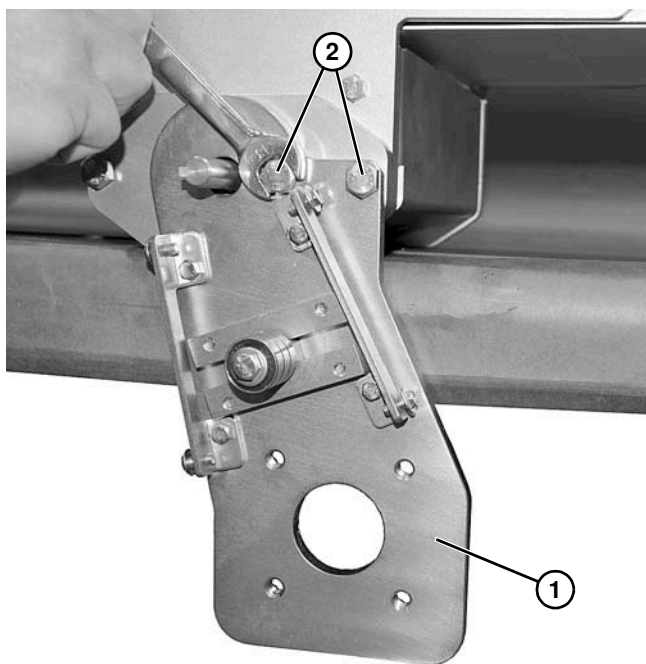

Figure 30
1. Install mounting plate (Figure 30, item 1) onto drive end of conveyor with two screws (Figure 30, item 2).